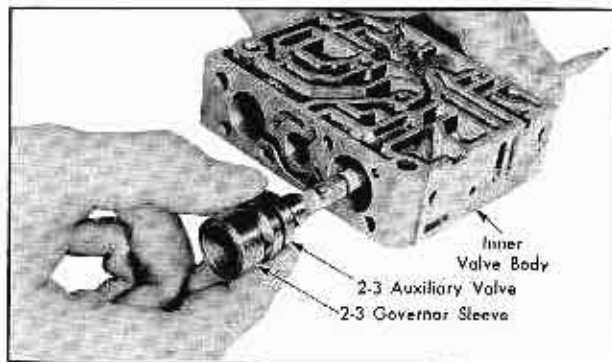

Fig. 14-70 Removing 2-3 Governor Sleeve and 2-3 Auxiliary Valve
2. With rear valve body off inner valve body, remove the following from the inner valve body: 3-4 governor plug, 2-1 detent plug, 2-3 governor plug, 2-3 governor sleeve, and 2-3 auxiliary valve. Fig. 14-70.